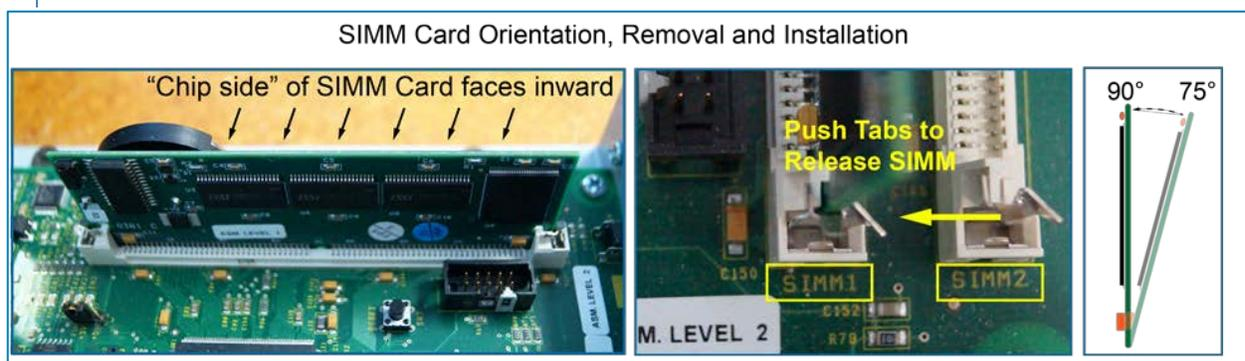

Figure 3-1 SIMM Orientation, Removal and Installation
4. Remove the four (4) screws holding the cover on the FSC3000™.
5. The currently installed 72-pin SIMM card must be removed from SIMM slot 1 and replaced by the SIMM card provided with the upgrade kit. The existing SIMM card will be moved to the empty SIMM slot 2 (see Figure 3.1 for SIMM-slot locations). This will supply expanded system memory. To remove the existing SIMM card from its slot: